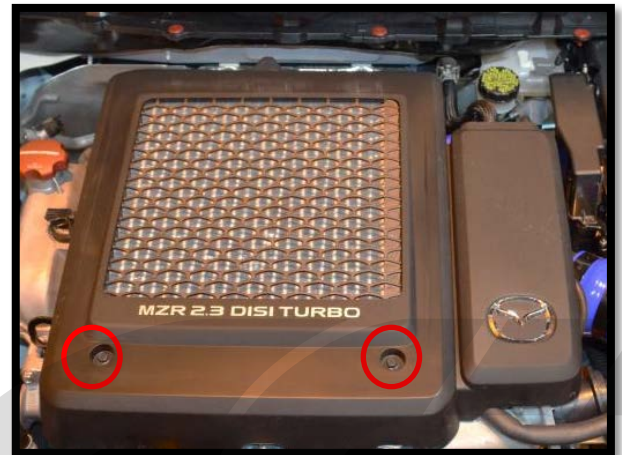

Figure 1a
- a) **Remove the top mount intercooler shroud.** Remove the two (2) 10mm bolts then push the shroud toward the firewall, and remove. (Red Circles in Figure 1a)